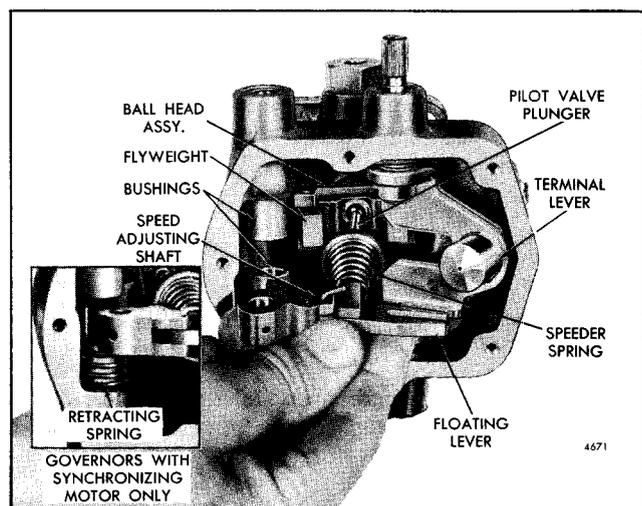

Fig. 16 - Installing Speed Adjusting Lever, Floating Lever, Speeder Spring and Pilot Valve Plunger Assembly
spring over the speed adjusting lever shaft bushing in the governor housing, with the hooked end of the spring over the slot between the two shaft bushings. See inset in Fig. 16.
**CAUTION:** On a governor equipped with a synchronizing motor, be sure the hooked end of the speed adjusting lever retracting spring is on top of the speed adjusting lever before installing the shaft (see inset in Fig. 16).